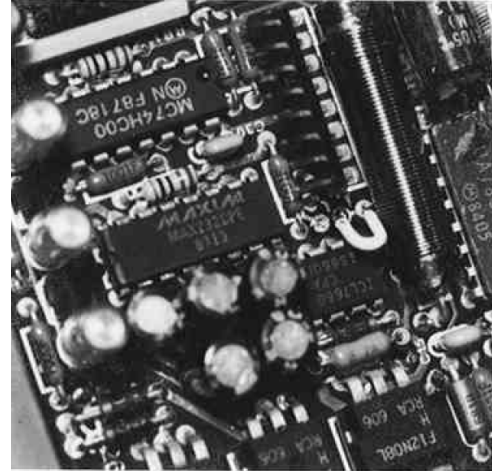

Figure E-4. Location of the jumper wire
Step 3. Install a jumper wire between the two pads (marked by an arrow) directly to the right of the arrow referred to in step 2 (fig. E-4).